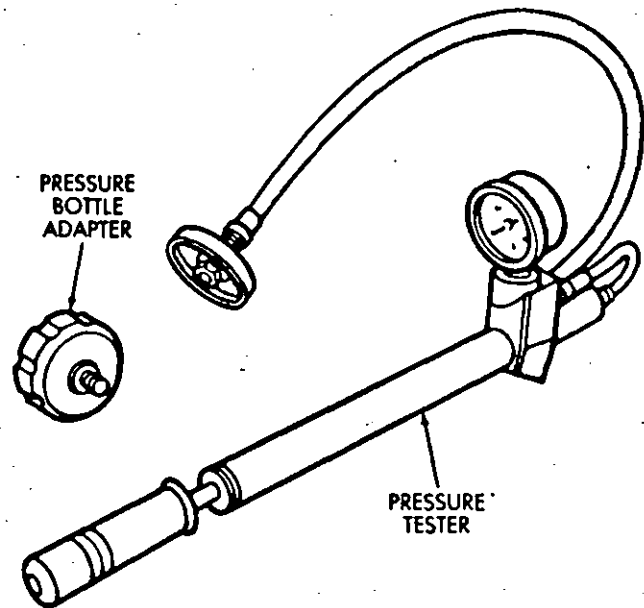

Fig. 2—Pressure Bottle System Pressure Tester
- (1) Remove cap from pressure bottle and install pressure tester adapter in place.
- (2) Connect pressure tester to adapter (Fig. 2).
- (3) Start and operate engine until radiator upper hose is warm.
- (4) Stop engine.